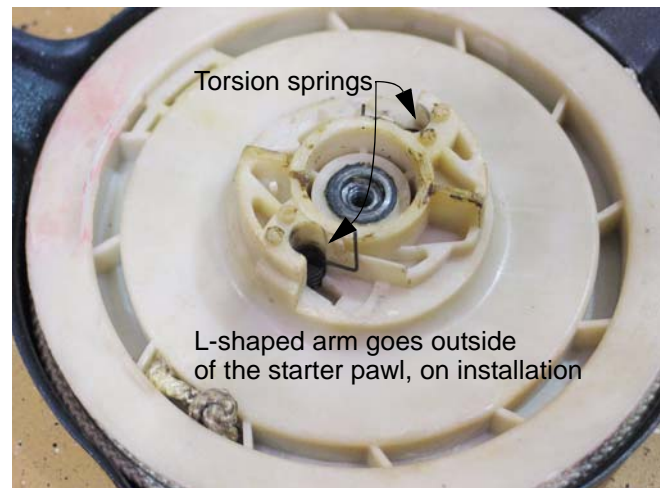

Figure 6.12
- 6.12. Inspect the pawls and torsion springs for wear and damage. See Figure 6.12.